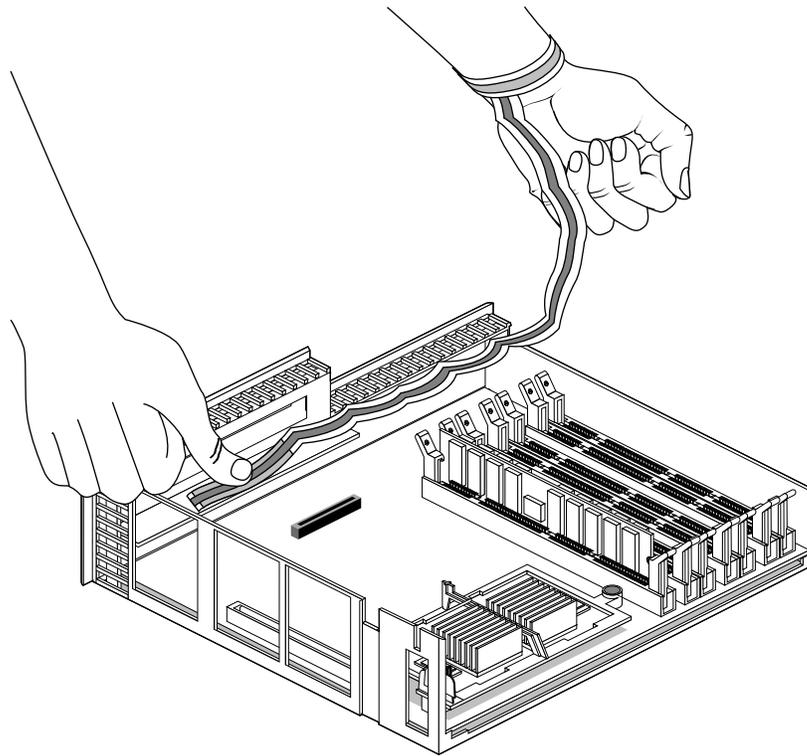

Figure 1-13 Attaching the Wrist Strap
1. Before touching any of the components, ground yourself to a metal part of the system module with a wrist strap (Figure 1-13).
4. Before touching any of the components, ground yourself to a metal part of the system module with a wrist strap (Figure 1-13).